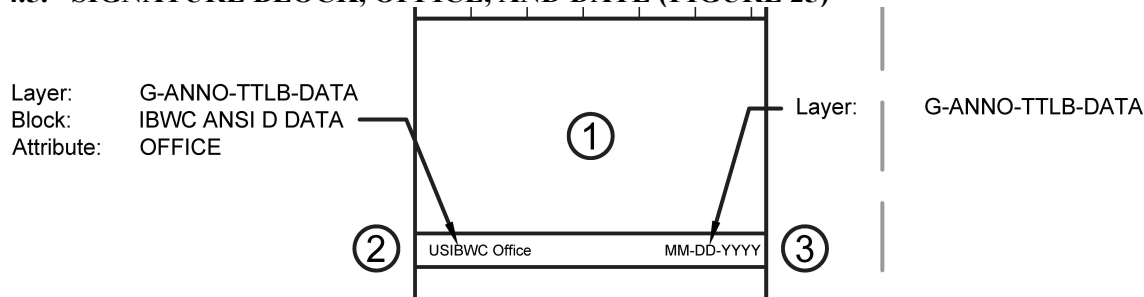

Figure 25-USIBWC Border: Signature Block, Office, and Date
4.5. SIGNATURE BLOCK, OFFICE, AND DATE (FIGURE 25)
- 4.5.A. Figure 25, Item 1 - Signature Block (use appropriate block)
4.5.B. Figure 25, Item 2 - USIBWC Office
4.5.C. Figure 25, Item 3 - Date